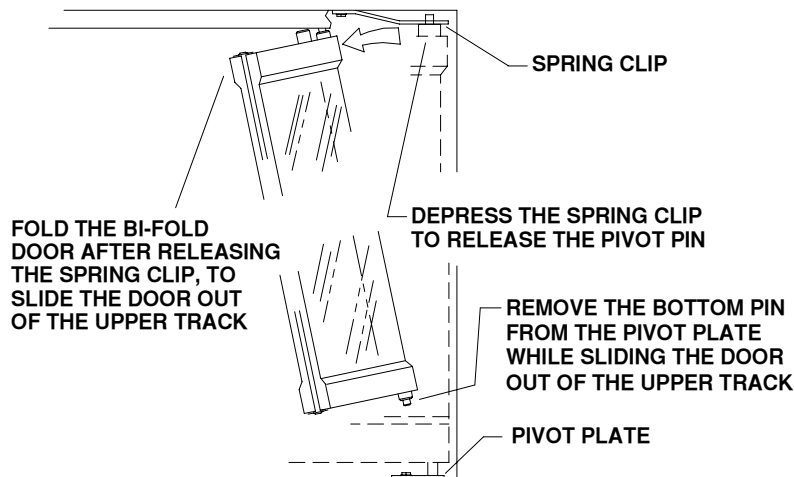

Figure 2 – Removing Glass Doors
1. Remove glass doors (if equipped) by following the instructions shown in **Figure 2**.
3. Reinstall the front refractory panel and glass doors in reverse order shown in **Figure 2**.